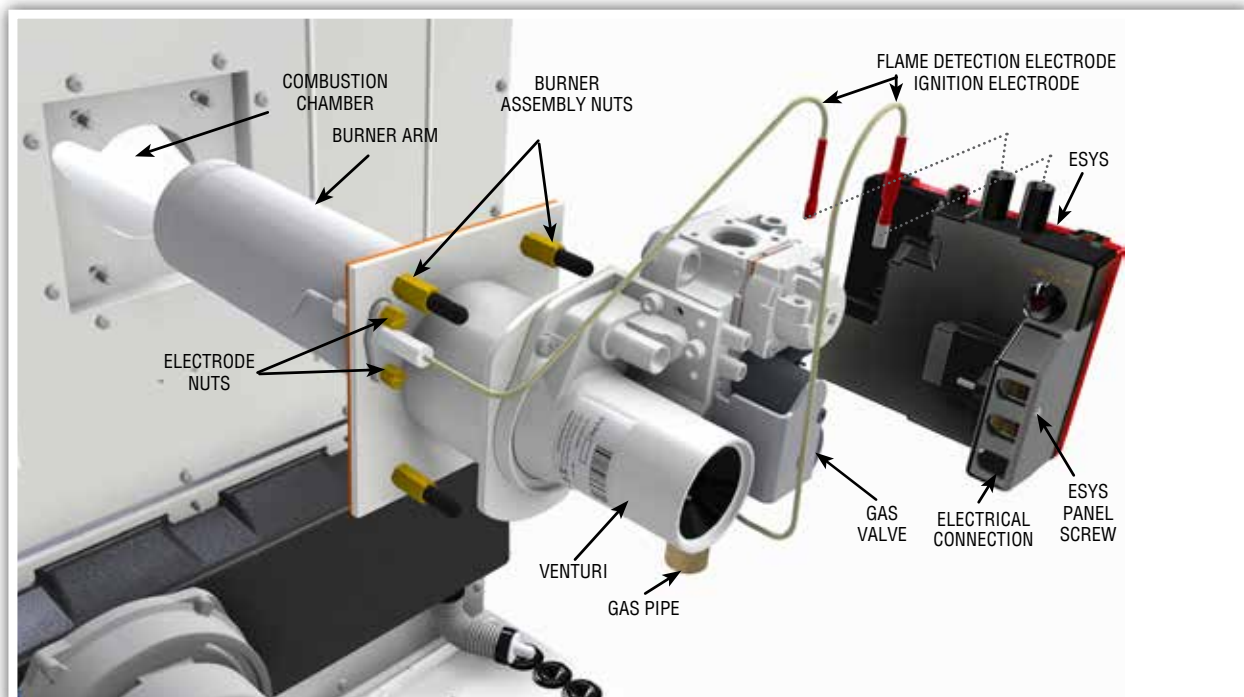

FIGURE 18. MAIN BURNER ASSEMBLY REMOVAL
- 16.4.1 Refer to section 16.3. See Figure 18.
16.6.1 Refer to section 16.3, 16.4 and Figure 18.